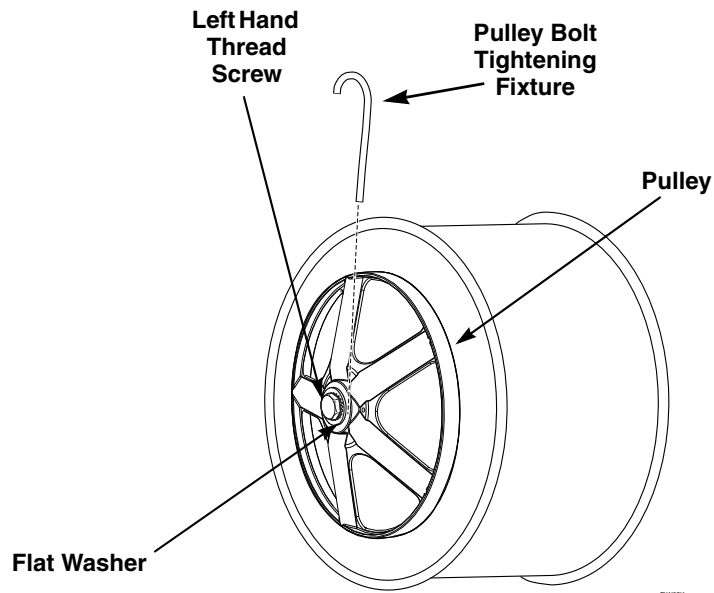

Figure 73
- Install pulley bolt tightening fixture between the flat washer and the pulley. Refer to Figure 73.
- ad. Install pulley bolt tightening fixture between the flat washer and the pulley. Refer to *Figure 73*.